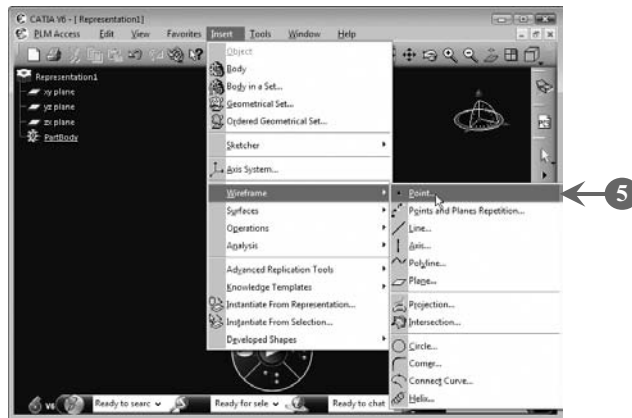

FIGURE 5.4
5. Select **Insert**>**Wireframe**>**Point** from the menu bar to create a point, as shown in **Figure 5.4**: